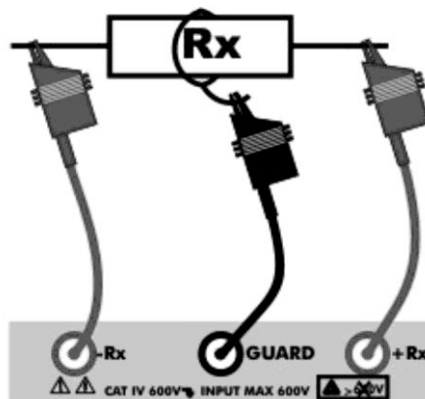

Fig. 5: Instrument connection
6. Insert the measuring leads into the relevant input leads of the instrument -Rx, +Rx and GUARD, if necessary (see § 4.5 and Fig.5)